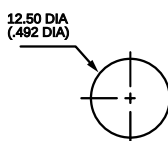

Fig. 1
- 0** For non-sealed mounting (see panel cut-outs Fig. 1, 2 or 3): 2 hex nuts 14mm (.551") across flats, 1 locking ring U121 or U12, 1 lockwasher U13. (See hardware section of catalog). Panel thickness: 5mm (.196") max.